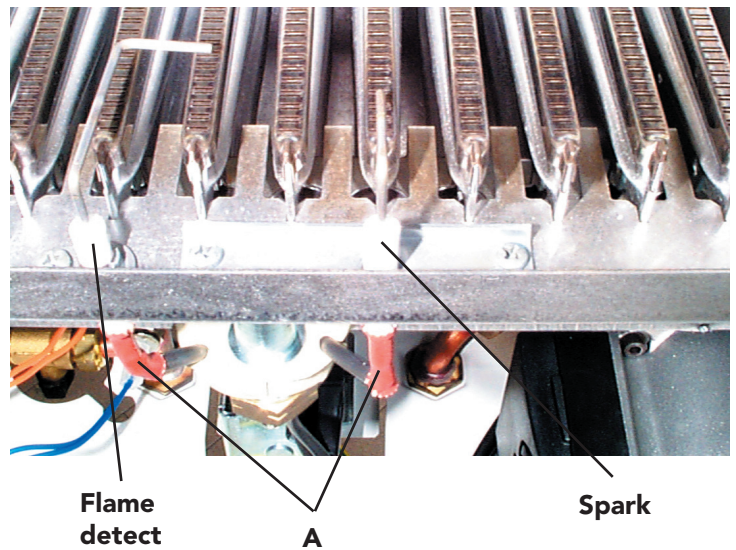

Fig. 38
**7.12 Spark or flame detect electrode (fig. 38)**
- Identify electrode from fig. 38